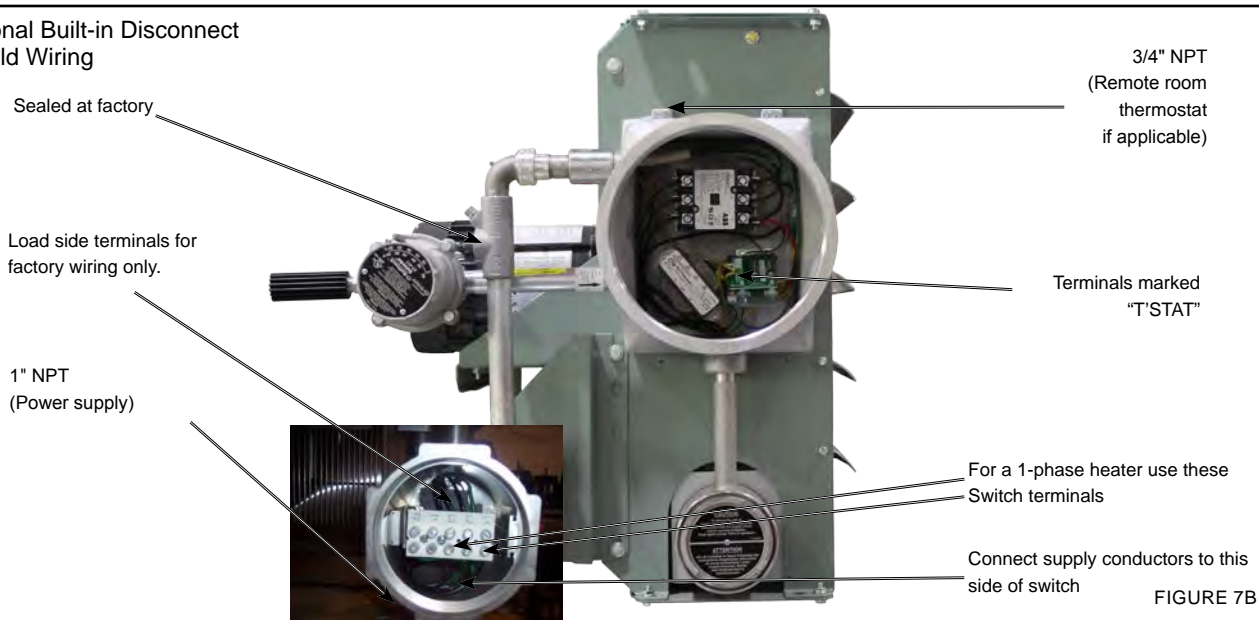

FIGURE 7B
3. Heater may be supplied with a factory installed built-in integral disconnect. (See Figure 7B)
- a. Power Supply conductors and Ground conductor pass through 1"NPT opening of Disconnect Enclosure (see Figure 7B). Supply conductors to be wired to Disconnect Switch inside. Ground conductor to be wired to Ground Lug fastened to inside of Disconnect Enclosure.
- b. If applicable, Remote Room Thermostat conductors pass through 3/4"NPT opening (see Figure 7b) and are to be wired to printed circuit board terminals marked "T'STAT".